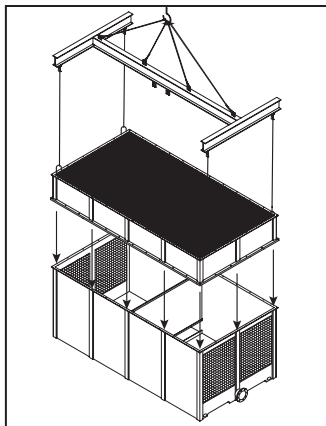

Figure A-76: Lower body section assembly for a modular tower (RTGM-D & RTGM-E)
- J. **Only for RTGM-D & RTGM-E models:** Assemble Lower Body section #1 on top of basin section #1, make sure that the bolt holes on Lower Body section #1 are aligned with the perforations on basin section #1, then bolt down and secure the horizontal flanges with the stainless steel nut and bolt sets supplied by REYMSA (see Figure A-76).